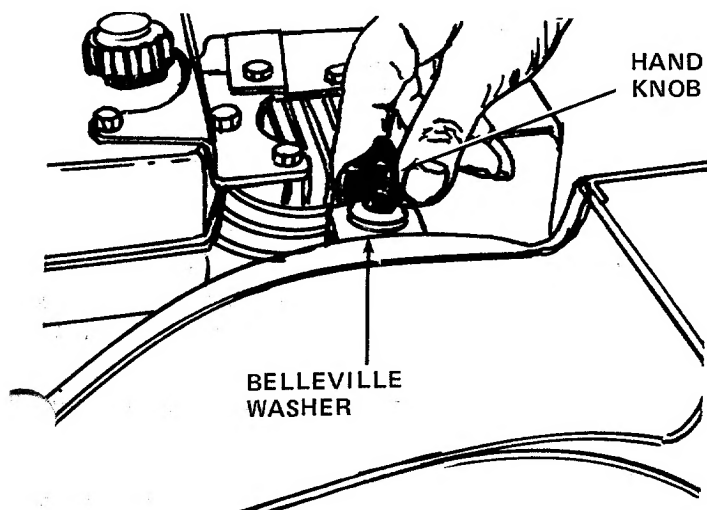

FIGURE 12
4. Remove the hand knob and belleville washer holding the housing to engine brace. See figure 12.